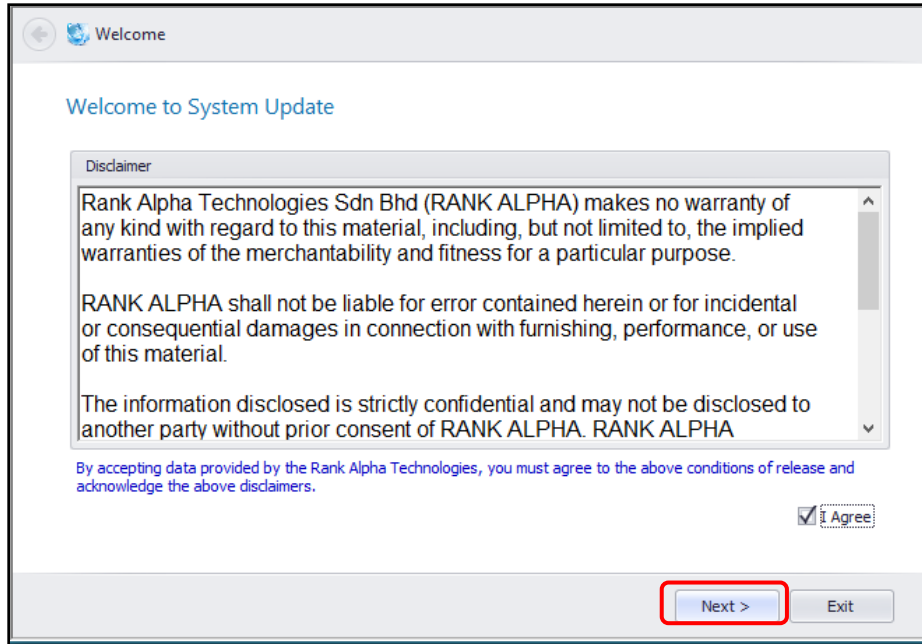

Figure 26
- iii. Click on **Next** button on *Figure 26*, below screen will appear for user to confirm the system name and Id.